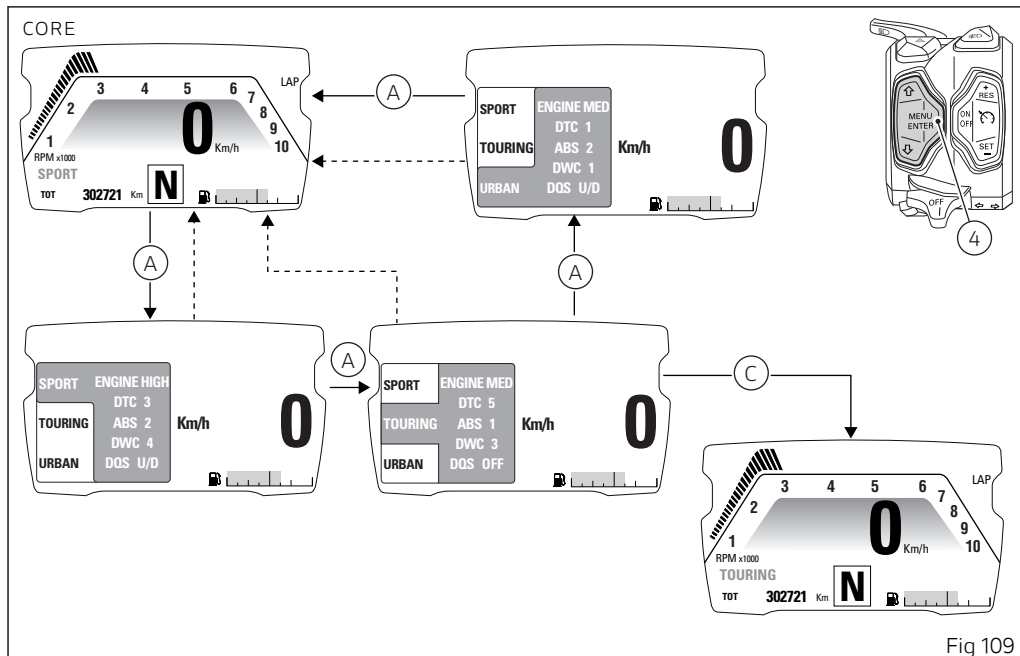

Fig 109
Any time the CONFIRM MENU button (4) is pressed, you highlight a riding mode and the associated parameters are displayed (A, Fig 109).
Once the desired riding mode (A, Fig 109) is highlighted, confirm the selection by holding down the CONFIRM MENU button (4) for 2 seconds: the new riding mode selection is stored and the standard screen (C, Fig 109) is displayed for the selected riding mode.